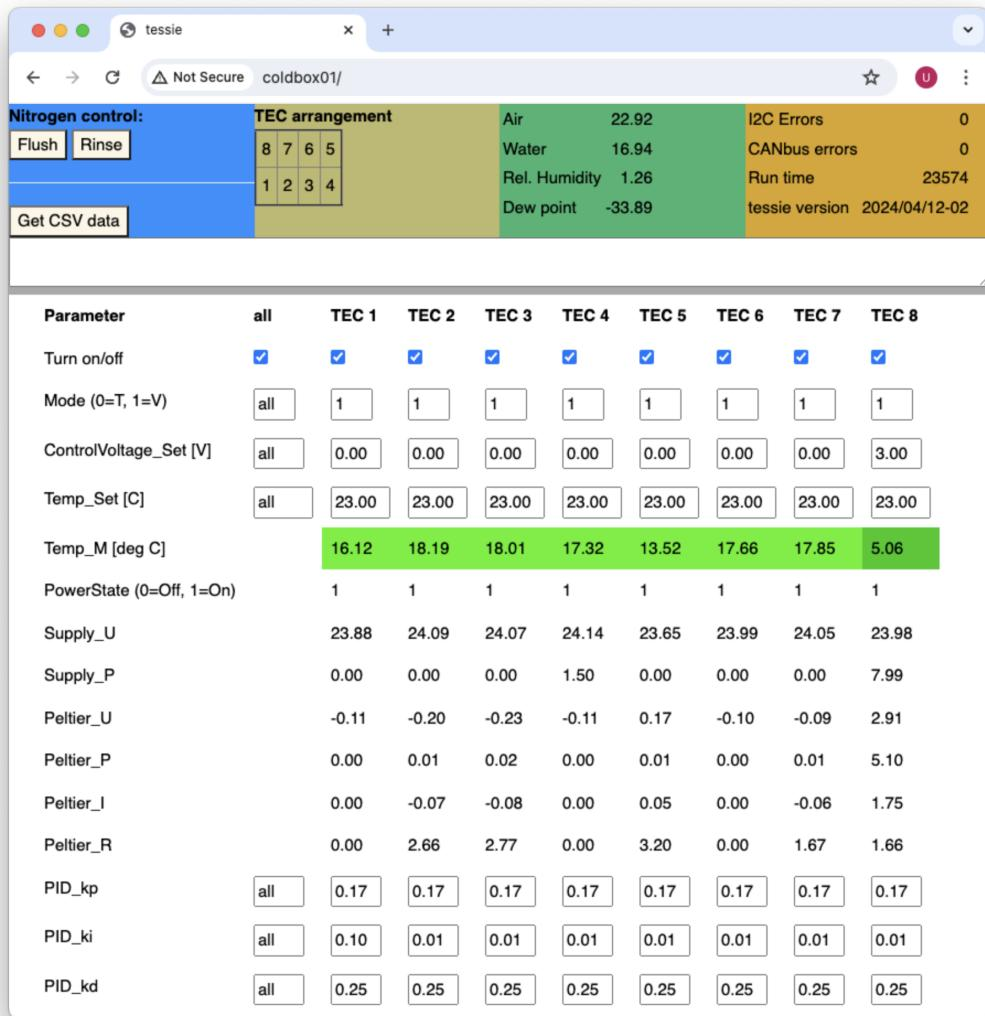

Figure 8: Web graphical interface to **tessie**. The top right brown-yellow box will turn red in case the connection to **tessieWeb** is interrupted.
Figure 7: The GUI appearing on the Raspberry Pi touch screen. The interaction possibilities are limited to (1) controlling the N2 flow with **Rinse** and **Flush**, (2) stop operations with "STOP ALL" which will turn off all TECs, turn on maximal N2 flow by opening both the rinse and flush valves, and breaking the HV/LV interlocks, (3) resetting the interlocks, and (4) "Quit"-ing the program. The **Rinse** and **Flush** buttons will have a greenish background color when these valves are open and N2 is flowing. For full control of **tessie** you should use the web interface shown in Fig. 8.
The normal manual way to interact with **tessie** is through a webbrowser. Point your favorite browser to <http://coldbox03>, cf. Fig 8.